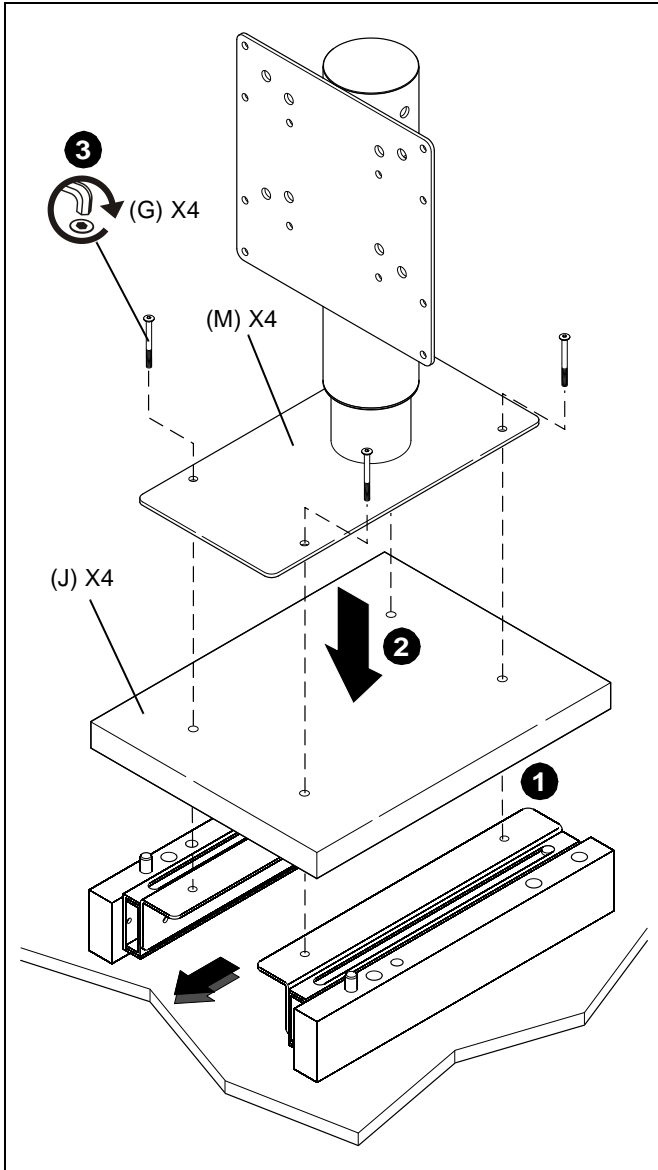

Figure 4
1. Orient base (j) so that four mounting holes face front and slotted side faces down. (See Figure 4)
2. Orient top assembly (m) so that vertical tube is closer to back. (See Figure 4)
3. Secure top assembly to base using four bolts (g) and hex wrench (i). (See Figure 4)